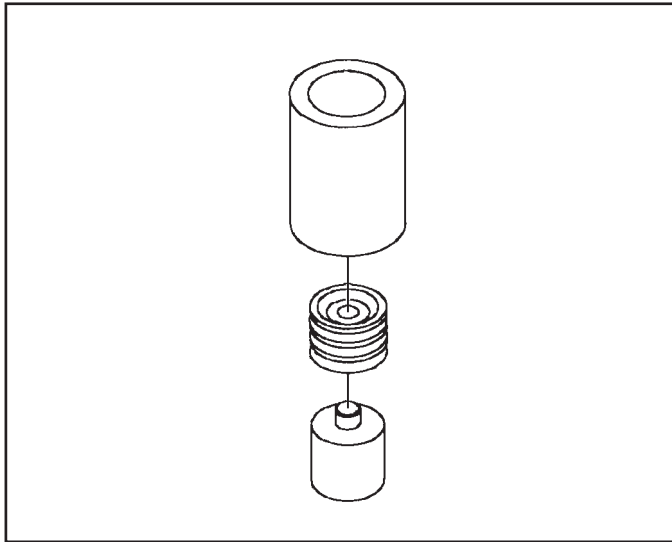

Figure 167
11. Remove the expander cone from the hub and lift the hub off of the support. Remove the sizer from the support as well. Place the hub with the threads facing down on the SHORT support (See Figure 167).
12. Size the sealing ring by placing the sizer over the hub with the large internal diameter down. Push carefully over the ring until the sizer bottoms out on the work table (See Figure 167).